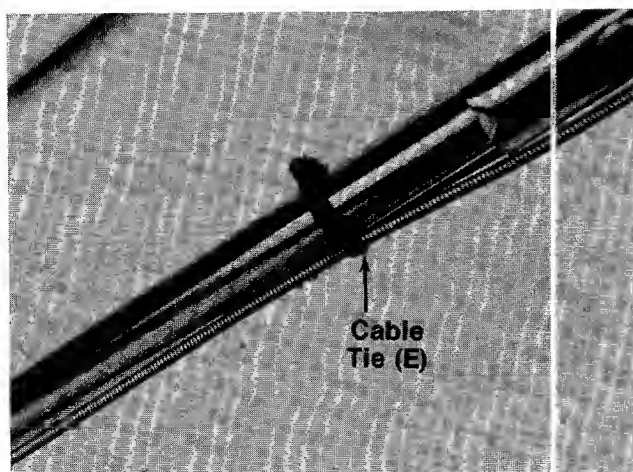

FIGURE 8.
14. Secure throttle control cable and blade brake/clutch cable to upper and lower handles with cable ties (E) provided. See figure 8.